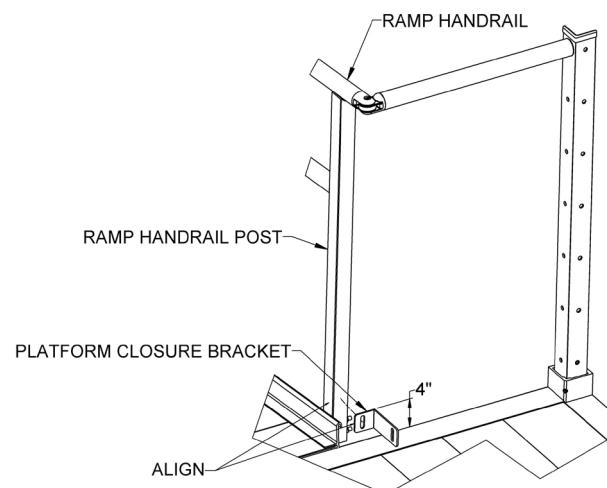

FIG. 5.7
- 5.4.12. Locate a platform closure bracket and clamp the short leg of the bracket to the ramp handrail post 4" above the platform deck with the short leg aligned with the post. Orient the bracket so the long leg is on the same side as and parallel to the platform post (FIG. 5.7).